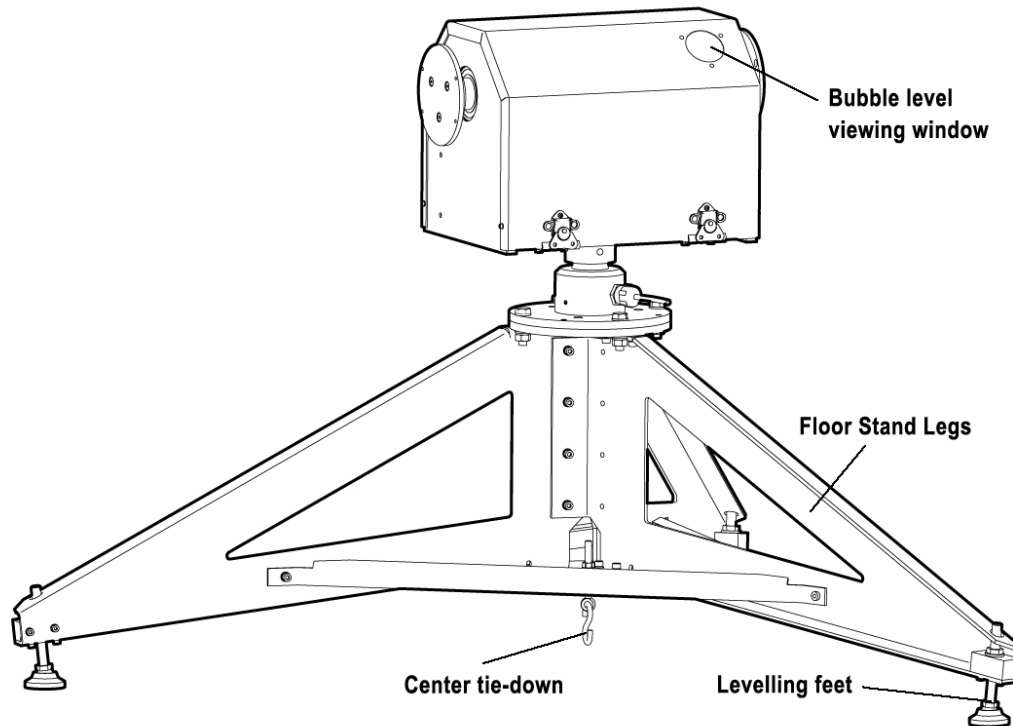

Figure 4.9: Optional Tripod Floor Stand.
- If the 2AP was purchased with the optional Tripod Floor Stand the unit can be leveled using the three levelling feet on the Stand. Adjust the levelling feet to move the bubble into the center of the level, see figure 4.9.